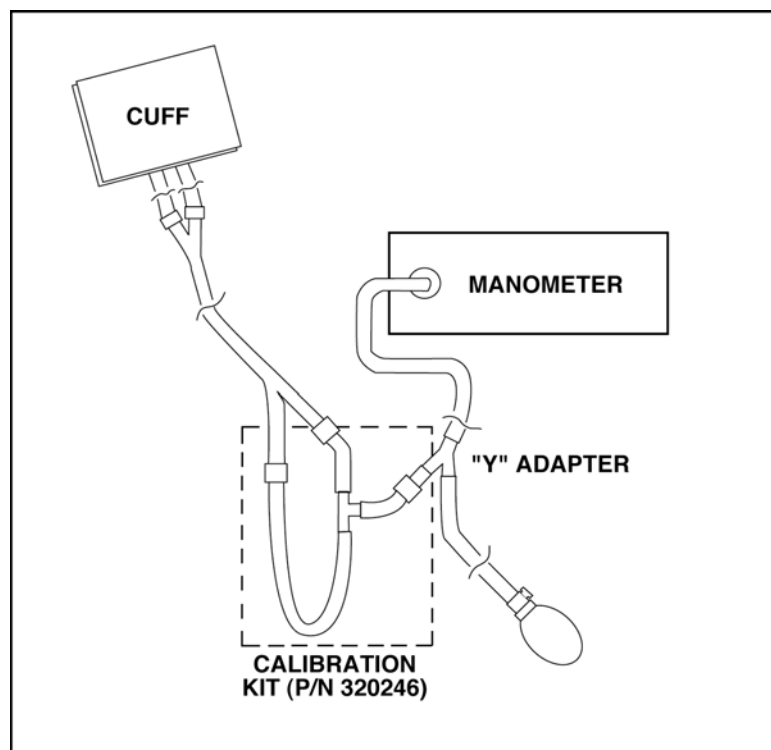

Figure 4-2 Leak Test Setup
7. Using the calibration kit (part number 320-246), an adult cuff and air hose, and a manometer, set up the equipment as shown in Figure 4-2.